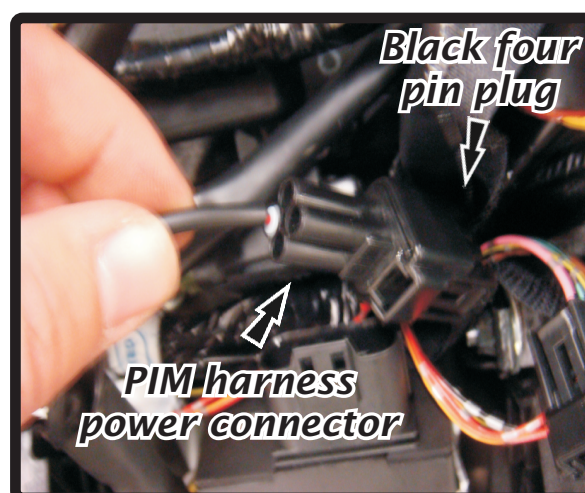

Fig. 8
- 8 In the black wire protector as in step 7, find the four pin black connector housing one pink, one light green, one blue/yellow and one brown wire. (Fig. 8) Disconnect the connectors cover and connect PIM Power wire connector.
- 9 Remove the two OEM bolts holding the regulator in place and install the PIM bracket using the OEM bolts. (Fig. 8)